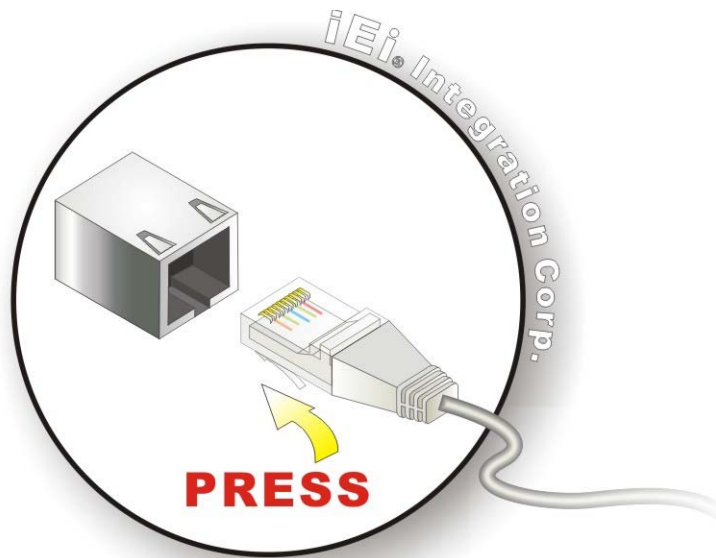

Figure 4-16: LAN Connection
- Step 2:** **Align the connectors.** Align the RJ-45 connector on the LAN cable with one of the RJ-45 connectors on the SPCIE-C2160. See **Figure 4-16**.